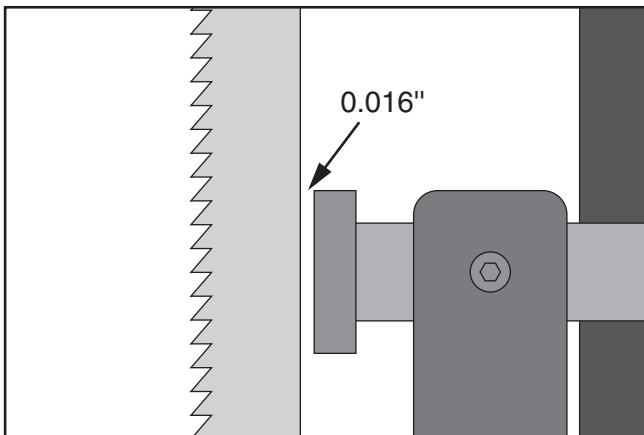

Figure 24. Blade should be aligned approximately 0.016" away from the bearing edge.
6. Place a 0.016" feeler gauge between the support bearing and the blade, and use the adjustment knob to position the bearing 0.016" away from the back of the blade (similar to **Figure 24**).